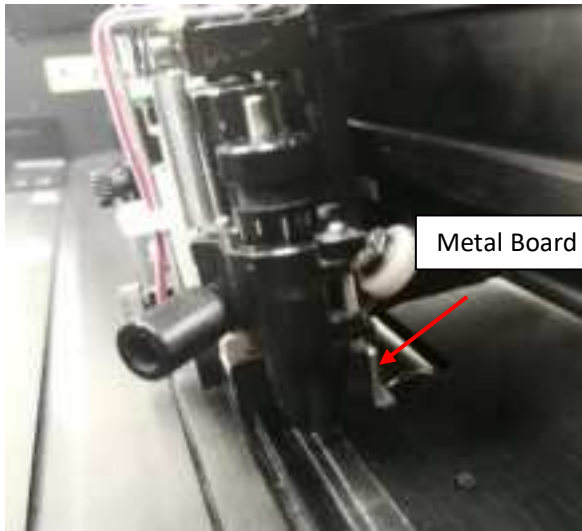

Figure 2-39
Step 5 Remove the entire Cut-off Unit by holding it while pushing the tiny metal board on the right to the left (Figure 2-39 and 2-40).